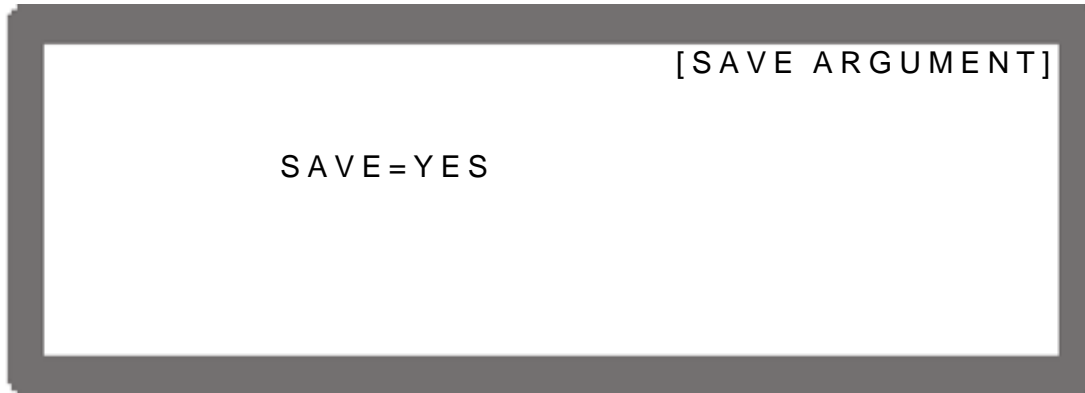

Figure 3-112
(12) The current calibration is done once the above actions are completed. Turn off the DC Power Supply output and press “” and “” to save the calibrated data as Figure 3-112 shows, or press “” to return to the MAIN PAGE.
- (8) The APG Voltage calibration is done once the above actions are completed. Press “**SAVE**” and “**ENTER**” to save the calibrated data as Figure 3-112 shows, or press “**EXIT**” to return to the MAIN PAGE.
- (8) The APG Voltage calibration is done once the above actions are completed. Press “” and “” to save the calibrated data as Figure 3-112 shows, or press “” to return to the MAIN PAGE.